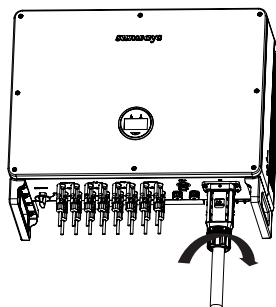

Figure 4-21
- ⑤ Tighten the nut with an openended wrench and complete the installation with a "click, click, click", as shown in Figure 4-21: